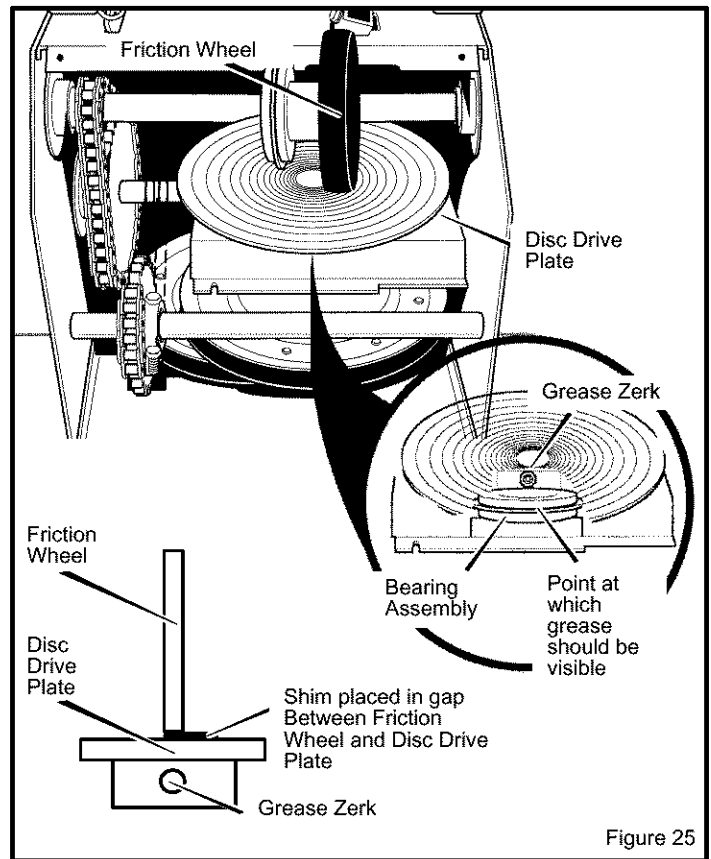

Figure 25
3. Position speed selector lever in first (1) forward gear.
6. Turn disc drive plate clockwise by hand until grease zerk is clearly visible at front center (see Figure 25).
7. Place a coin or (a **shim of equal thickness**) between the rubber friction wheel and disc drive plate to prevent rubber friction wheel contacting the drive disc (see Figure 25).
8. To grease zerk, use a hand grease gun, lubricate with a Hi Temp EP Moly grease. See inset of Figure 25. **DO NOT** over fill or allow grease to come in contact with the disc drive plate or friction wheel or damage will result. Fill zerk only until grease becomes visible below bearing assembly located under grease zerk.